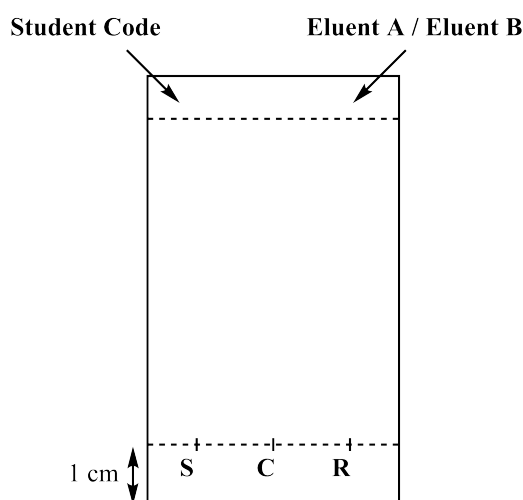

Figure 3. TLC plate preparation
3. **Prepare your TLC plate.** Use a pencil to **draw** carefully the start line (1 cm above the bottom of the plate) and **mark** the positions in order to spot the 3 samples. **Label** them **S** (Starting material), **C** (Crude product) and **R** (Recrystallized product), as described in Figure 3. On the top left of the plate, **write** your **Student Code**. On the top right of the plate, **write** the eluent you will use (first **Eluent A**, then **Eluent B**). **Spot** the three samples on the plate, using capillary spotters.